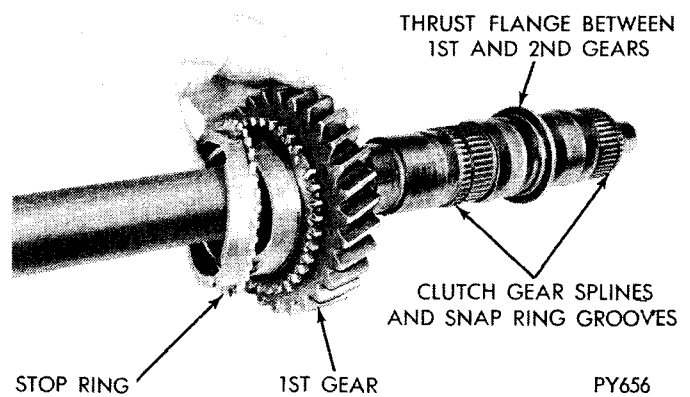

Fig. 24—Removal or Installation—1st Gear and Stop Ring
(10) Remove 1st gear and its stop ring from mainshaft (Fig. 24).
(14) Slide 1st gear and stop ring over rear end of mainshaft and against flange which separates 1st and 2nd gears (Fig. 24).